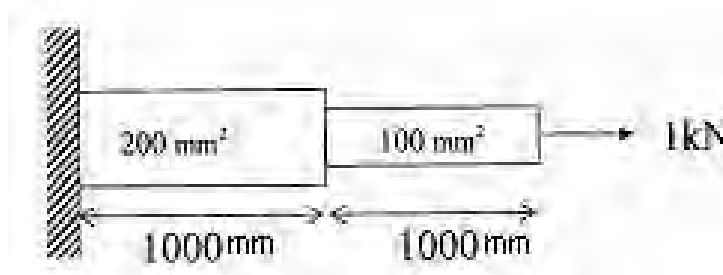

Figure 1
5. Find the displacement at the free end and the reaction force for the following problem. Assume $E = 2 \times 10^5 \text{ N/mm}^2$. {As shown in the Figure1} [16]